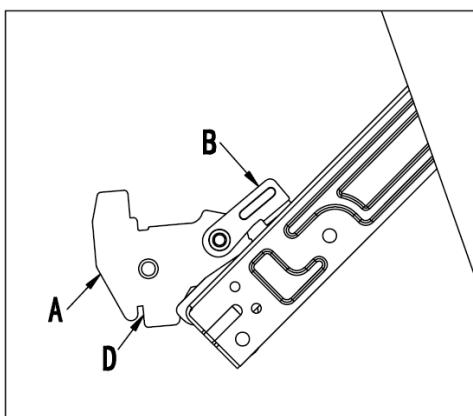

Fig. 1
- > Open the door completely and lift the 2 levers “B” (fig.1);